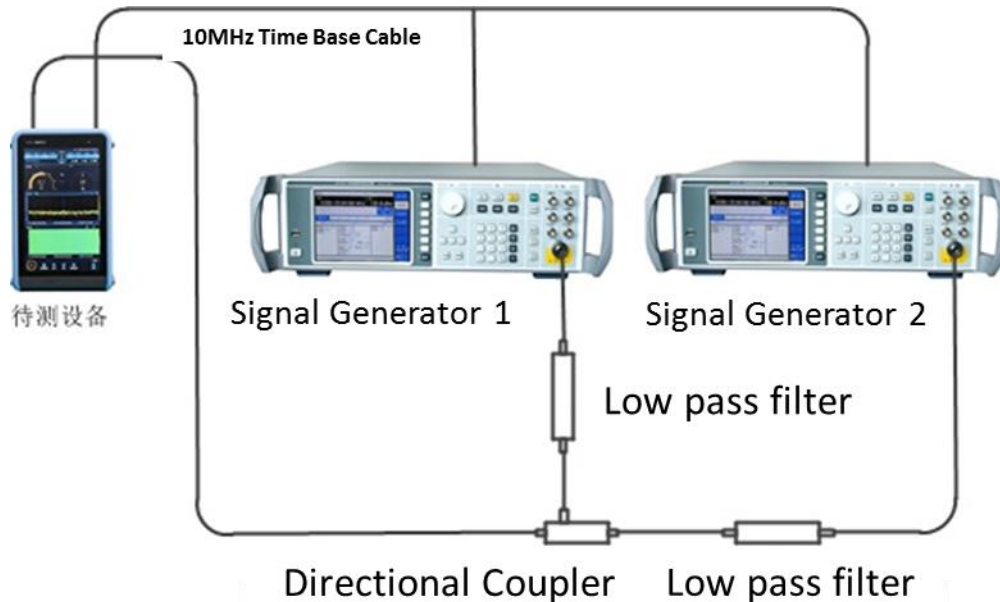

Fig. 8.9 Schematic diagram of the third-order intercept point test
1) Connect the test equipment as shown in Figure 8.9.